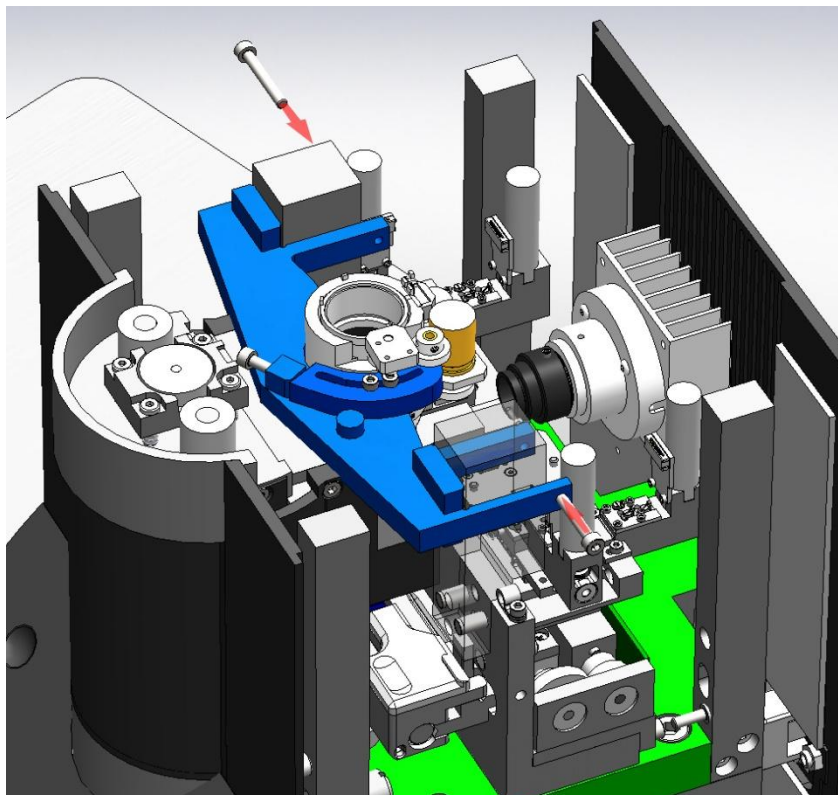

Fig. 2-16. Securing bracket
3. Secure the bracket on columns of the bracket of the videomicroscope carriage using two screws M3 (Fig. 2-16). Ensure that the screws are tightened enough.